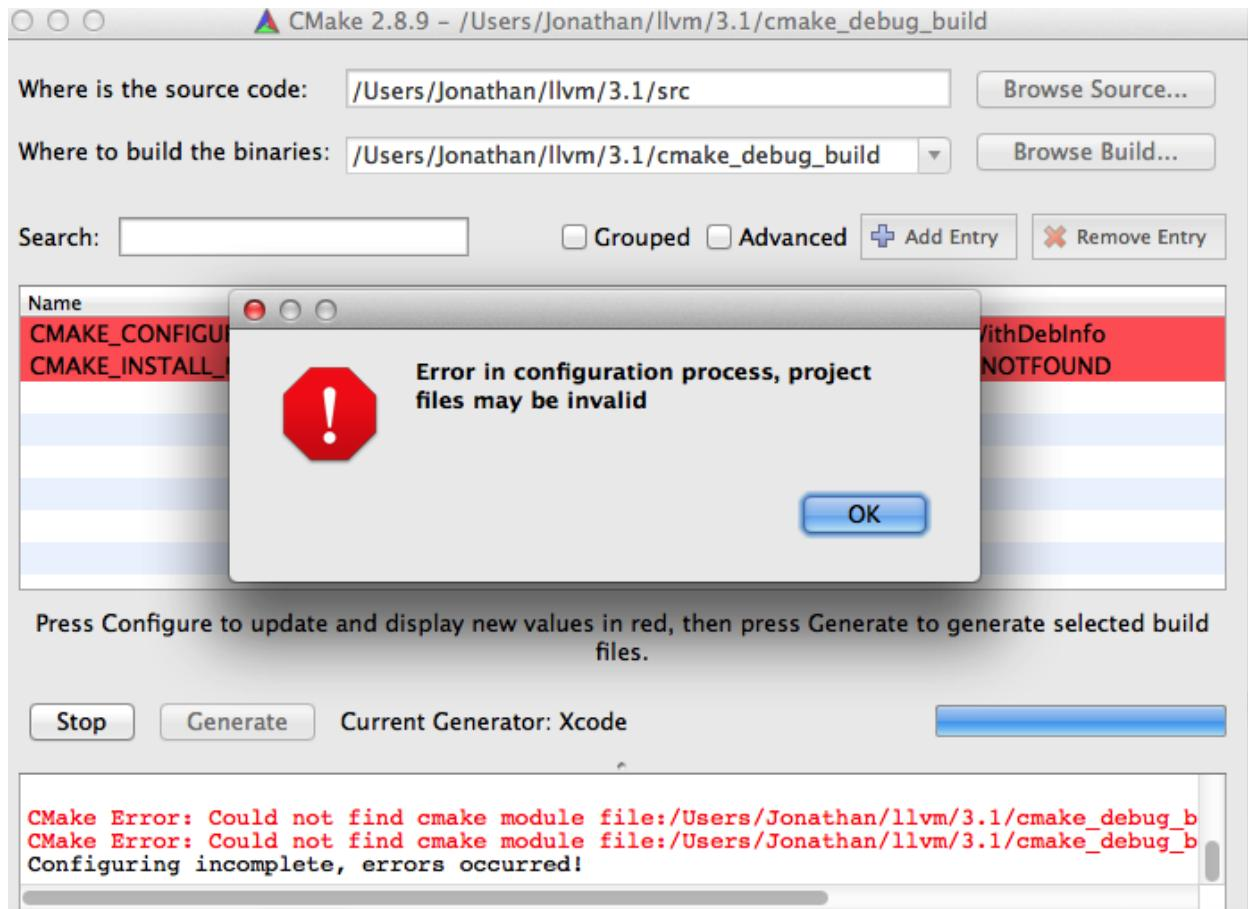

Figure 2.5: Create LLVM.xcodeproj by cmake – Before Adjust CMAKE\_INSTALL\_NAME\_TOOL
*Before Adjust CMAKE\_INSTALL\_NAME\_TOOL* Figure 2.5 appear after the below text “Click OK from ...” in pdf. If find the **NoReorder** or **newpage** directive, maybe can solve this problem.